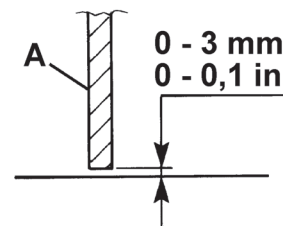
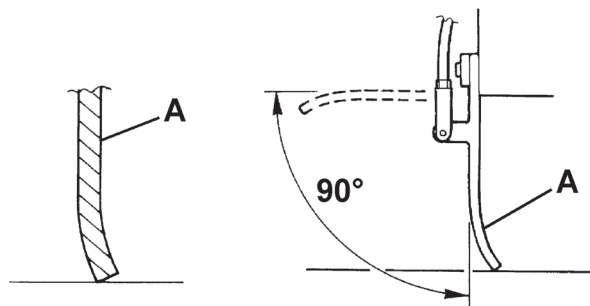
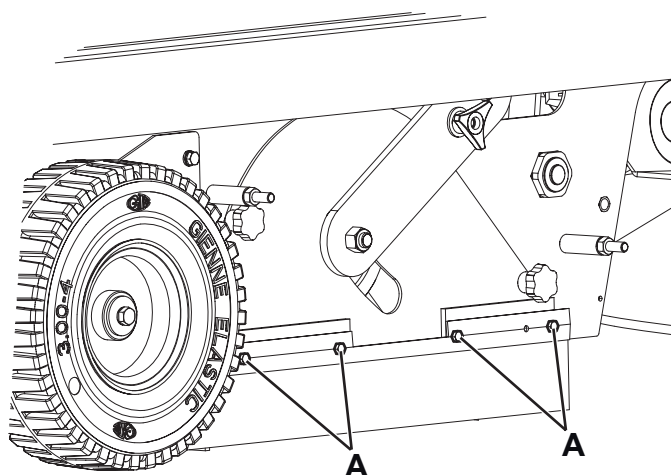
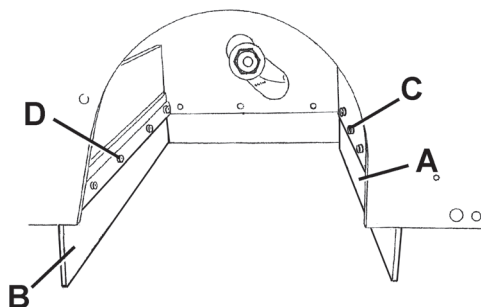

Figure 14
Figure 15
Figure 17
Figure 18
6. Check that distance from the ground of the side skirts (13 and 14) is within 0 – 3 mm (A, Fig. 14). If necessary, adjust the skirt height by using the slots on the screws (A, Fig. 17).
- The front skirt (A, Fig. 18) slightly touches the ground and that it is not detached from the ground (A, Fig. 15).
- The distance from the ground of the rear skirt (B, Fig. 18) is within 0 - 3 mm (A, Fig. 14).
11. If necessary, adjust the skirt height by using the slots on the screws (C and D, Fig. 18).